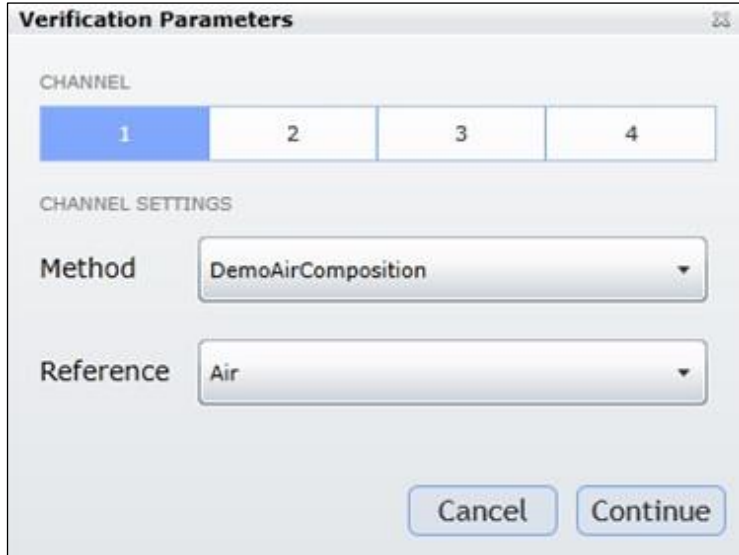

Figure 86. Verification parameters
2. On the Verification Parameters dialog that appears (Figure 86), choose a **Channel**, **Method**, and **Reference**. The selected channel will be highlighted in blue. Click **Continue**.